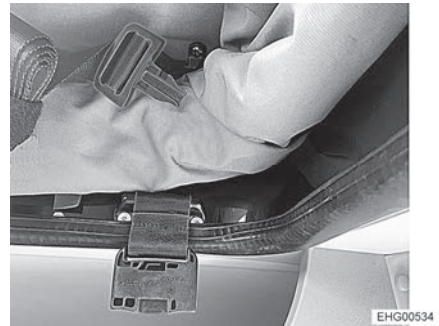

Fig. 68 Belt lock, open
- Close and tighten both belt locks (Fig. 68).